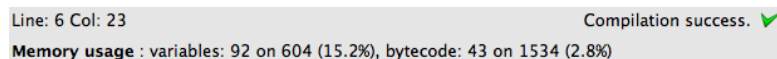

Figure 4: Your program is syntactically correct.
5. Notice that your program should now compile correctly, i.e., it has no obvious errors. At the bottom, you should see the message like in Figure 4. We now load and run the program!